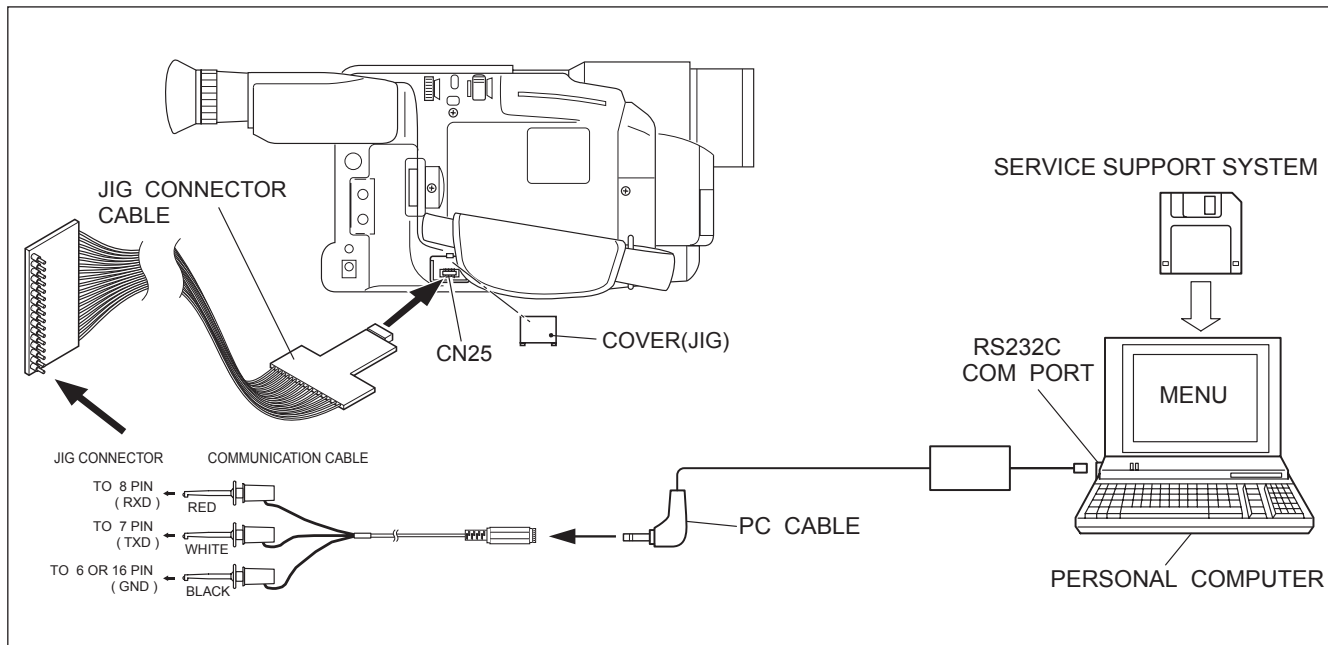

Fig.3-4-1
- (1) Remove the Cover (JIG) shown on Fig.3-4-1.
- (2) Connect the JIG CONNECTOR CABLE to CN25 on the MAIN BOARD ASSEMBLY.
- (3) Connect the channel-1 scope probe to the audio output (AO_SIG_J) and connect the channel-2 scope probe to PB CTL.
- (4) Playback the alignment tape.
- (5) Set the tracking to its center range by pressing the (+) and (-) tracking controls simultaneously.
- (6) Adjust screws **A**, **B** and **C** approximately 45 degrees in the same direction to obtain maximum audio output and CTL signal levels.
- (7) As a final fine adjustment, adjust screw **B** for minimum signal level fluctuation and screw **C** for maximum output signal level.
- Electrical adjustment except for B/W VF ASSEMBLY is performed by using PERSONAL COMPUTER. As for the cable connection, see Fig. 3-4-1. Read README.TXT file to use the software for SERVICE SUPPORT SYSTEM properly.
For the connection of the JIG CONNECTOR CABLE, refer to Fig.3-4-1.